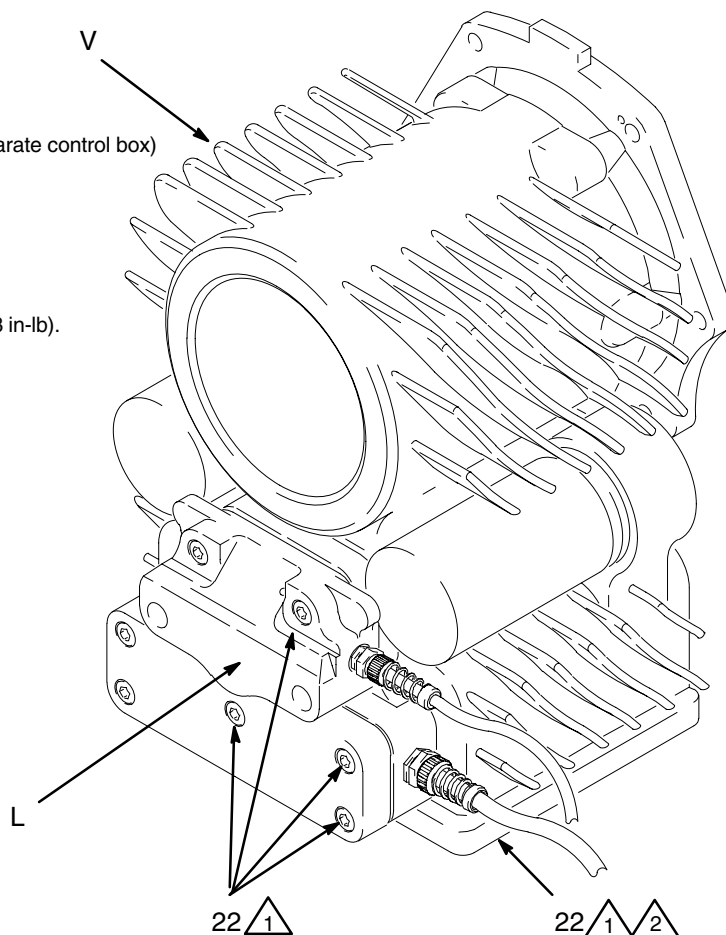

Fig. 4
1. Set your torque control to zero (0). See Fig. 4.
2. Turn on the power source to the motor. The power indicator (L) will light.
2. Turn your torque control to zero (0). See Fig. 4.